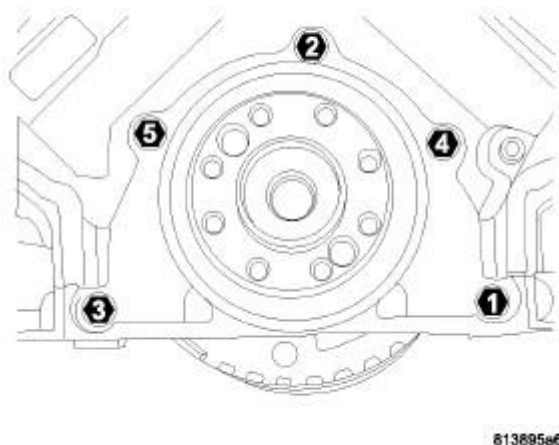

Fig. 164: REAR SEAL RETAINER TORQUE SEQUENCE
5. Using the sequence shown in **Fig. 164**, remove the rear oil seal retainer mounting bolts.